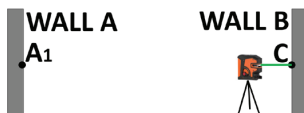

Figure 24
3. Set laser next to Wall B and adjust beam to height C. (Figure 24)